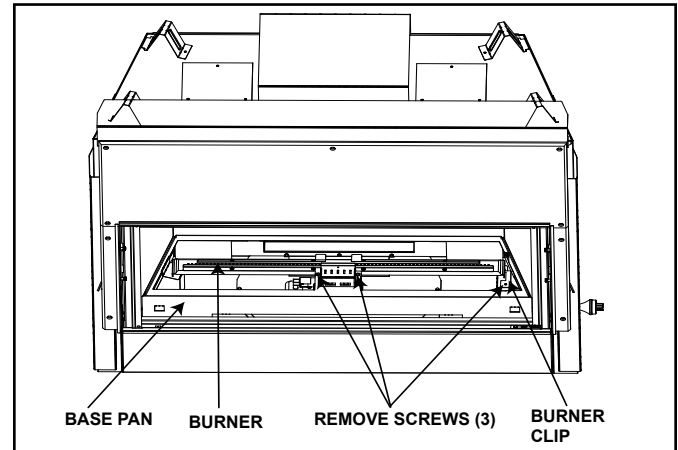

Figure 1
4. Remove the glass, tray with media and base pan. Next, remove the burner by removing the three screws shown in Figure 1, two on the pilot bracket and one on the burner clip.